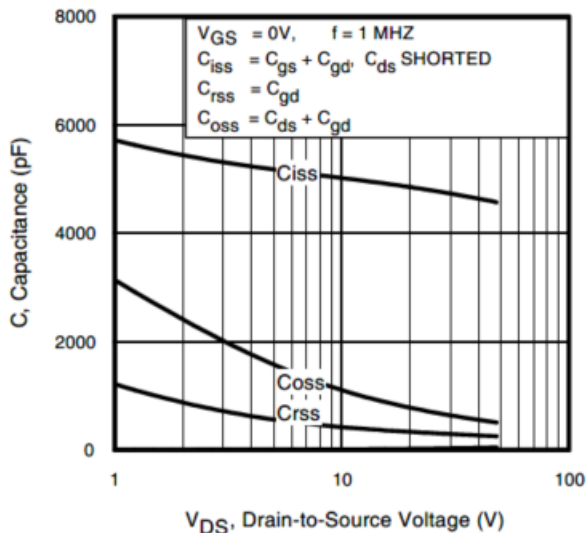

Fig 5. Typical Capacitance vs. Drain-to-Source Voltage
| $C_{rss}$                  | Reverse Transfer Capacitance                    | —    | 250  | —    |       | $f = 1.0\text{ MHz}$ , See Fig. 5                 |
| $C_{oss\text{ eff. (TR)}}$ | Effective Output Capacitance (Time Related) ⑥   | —    | 880  | —    |       | $V_{GS} = 0V, V_{DS} = 0V$ to $48V$ ⑥ See Fig. 5  |